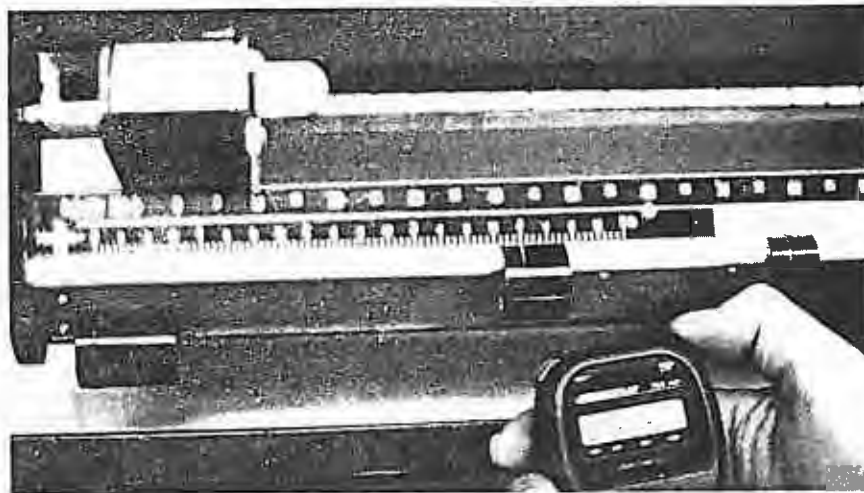

Figure 6.
- 6) When the beam balances, stop the stopwatch. Record the weight and time (Figure 6).